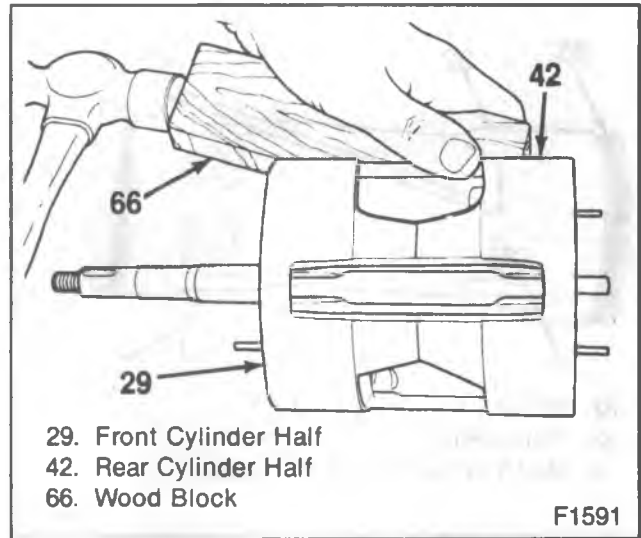
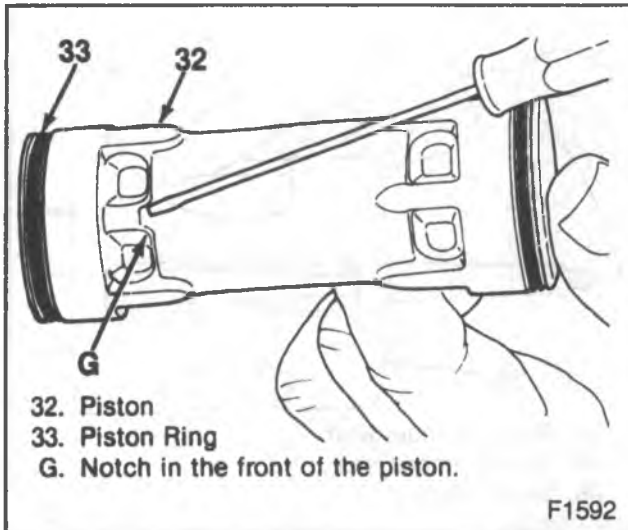

Figure 24—Separating the Cylinder Halves
Figure 25—Identifying the Notch at the Front of the Piston
- Separate the cylinders (29 and 42) with a block of wood and a mallet (figure 24).
- Do not let the discharge cross-over tube (26) touch the axial plate (39).
- Do not strike the shaft at either end to separate the upper and lower cylinder halves because the shaft (39) can be damaged.
- Rear half (42) of the compressor from the pistons (30).
- Front cylinder half (29) with the piston (38), shaft and axial plate (38) to J 9397.
- Pistons (30), balls (31) and seats (33) in the order in which the pistons are marked.
- Place the pistons (32) in J 9402 with the notch in the casting web at the front end of the piston into the dimpled groove of the J 9402 (figure 25).